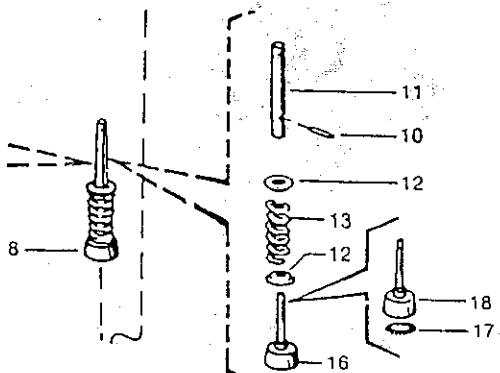

FIGURE 10
47) Assemble this type in accordance with this special section and Figure 10.
- a. Hold a spring seat (12) against each end of the spring (13) and slide the pump plunger and stem assembly (16) through the spring.
- b. Slide the pump plunger rod (11) over the end of the pump plunger stem (11) so that the hole at the lower end will be in alignment with the slot in the stem. Apply finger pressure